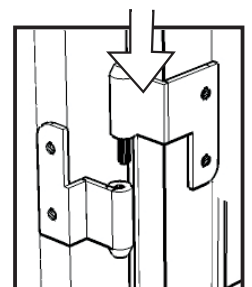

Figure 3
Attach the Doors (Q) and (R) to Side Panel (B) and (C), slide the door lift hinges into the side panel lift hinges. (see Figure 3)